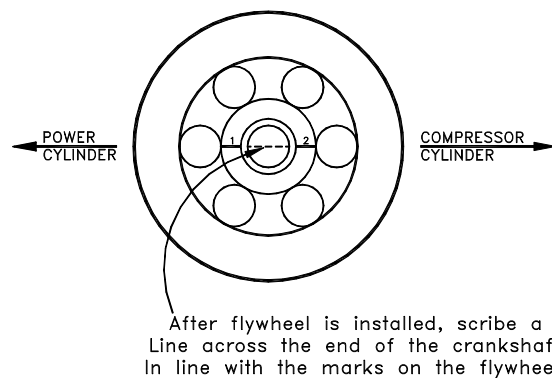

FIGURE 2
16. Position the crankshaft so that the #1 power piston is at top dead center. Using nylon straps lift the flywheel into position. The scribed timing lines on the face of the flywheel must be horizontal with the line on the rim in the 9 o'clock position (see figure 2). Slide the flywheel onto the crankshaft until the face of the flywheel hub is flush with the end of the crankshaft.